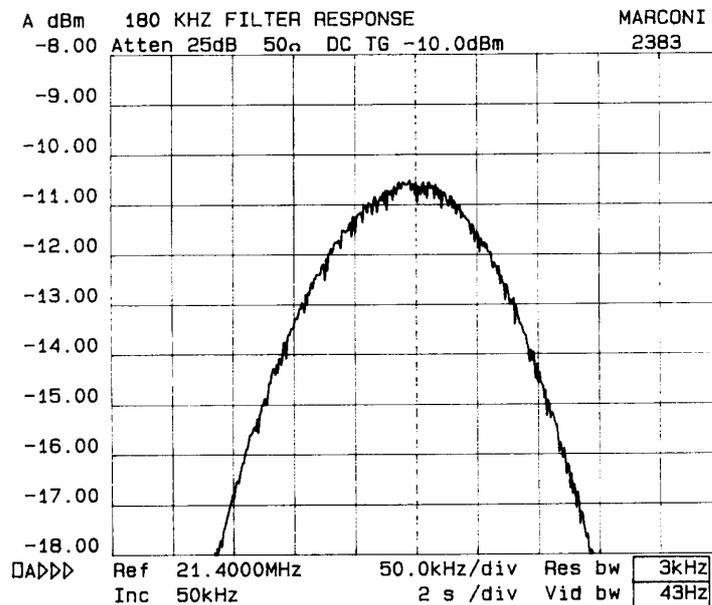
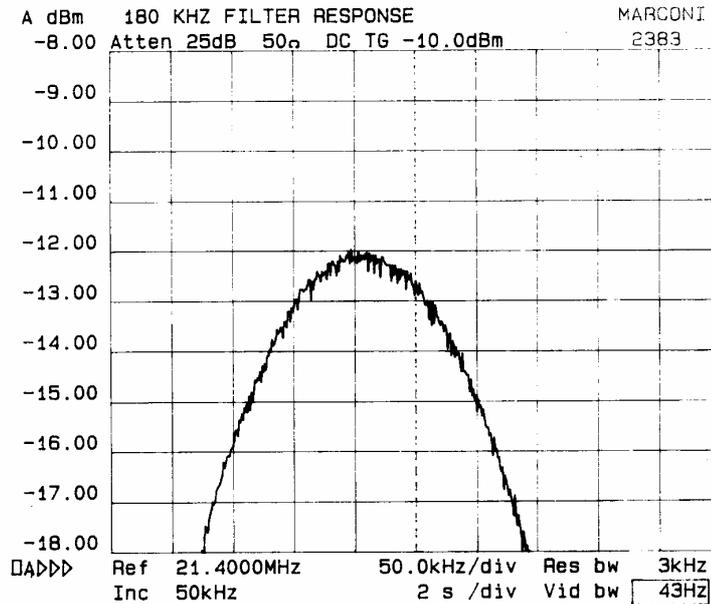

Fig. 5-2-18 Response of 20 dB IF 180 kHz band-pass amplifier (lid secured)
Fig. 5-2-19 Response of 20 dB IF 180 kHz band-pass amplifier (lid removed)
- (5) Connect the signal generator output to the RF IN/OUT BNC socket.
- (6) Set the signal generator to 71.4 MHz and -20 dBm.
- (7) Select the CALIBRATION MODE display by pressing in turn the HELP, TX MON ON-OFF, AC DC, VERT \blacklozenge , FREQ \downarrow and REP SWEEP keys.
- (8) On the display, check that RANGE 2 is indicated. Press the HOLD RANGE key. 2 then appears in reverse video.
- (9) Disconnect the signal generator.
- (10) Connect the tracking generator output through the 50 dB attenuator to the RF IN/OUT BNC socket.
- (11) Set the spectrum analyzer to 21.4 MHz, span to 50 kHz/division, reference level to -8 dBm, span to 1 dB/division, resolution bandwidth to 3 kHz, video bandwidth to 43 Hz and tracking generator on.
- (12) Check that the response is as shown in Fig. 5-2-18 and that the 3 dB points give a bandwidth of 180 ± 40 kHz.
- (13) Reset the spectrum analyzer to 200 kHz/division and 10 dB/division.
- (14) Check that the rejection at 1 MHz offset is >38 dB.
When adjusting the response, the receiver tray lid has to be removed. This affects the response by shifting the centre frequency downwards by approximately 50 kHz. The ideal response is as shown in Fig. 5-2-18. With the lid removed, the response is as shown in Fig. 5-2-19.
40. To adjust the response, proceed as in para. 39 and use C15, C18, C27 and C31 as necessary tune the filters as shown in Fig. 5-2-19. The 3 dB points should give a bandwidth of 180 ± 40 kHz. After adjusting the response, replace the receiver tray lid and check that the response is now as shown in Fig. 5-2-18.